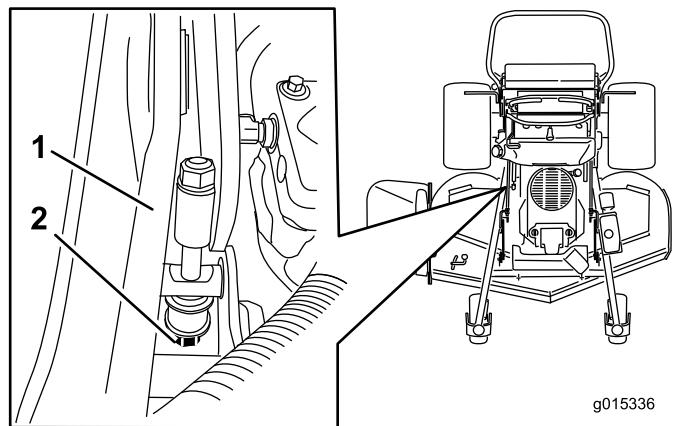

Figure 89
5. If it does not measure correctly, locate the height-of-cut rod on the right side of the machine (Figure 89).
6. Adjust the adjustment bolt until the blade tips match 7.6 cm (3 inches) as shown in Figure 89.